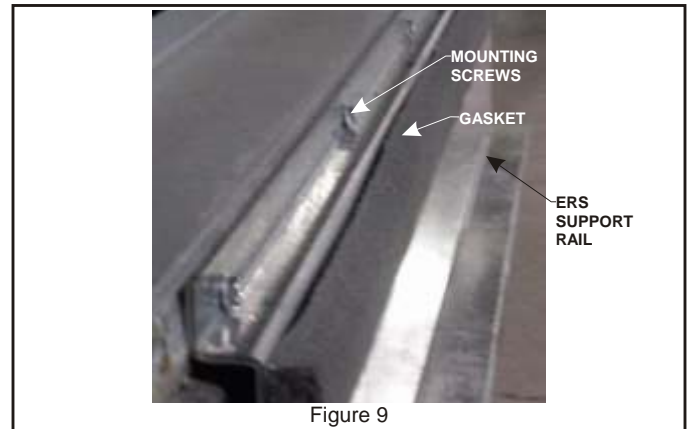

Figure 9
1. Position ERS support rail with notched flange pointing away from rooftop unit. Center the ERS support rail by using the center hole of plate and aligning it with the center hole in the base pan of the return opening. Use (5) of the #14-16 x 3/4" screws provided to secure plate to base of unit. Apply 3/4" x 1 1/4" gasket along face of the support rail. **See Figure 9.**